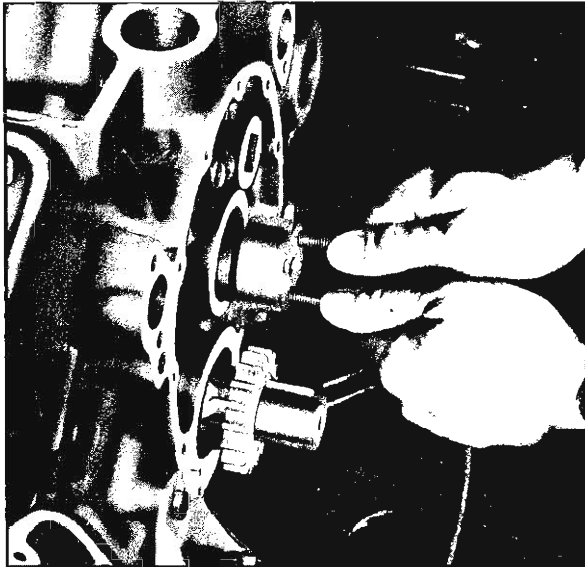

Fig. 17V—Removing Camshaft
6. Install two bolts, 5/16" x 18" x 4" in two camshaft bolt holes. Remove camshaft from engine (fig. 17V).
5. Install two bolts, 5/16" x 18" x 4" in two of camshaft bolt holes. Remove camshaft from engine (fig. 17V).